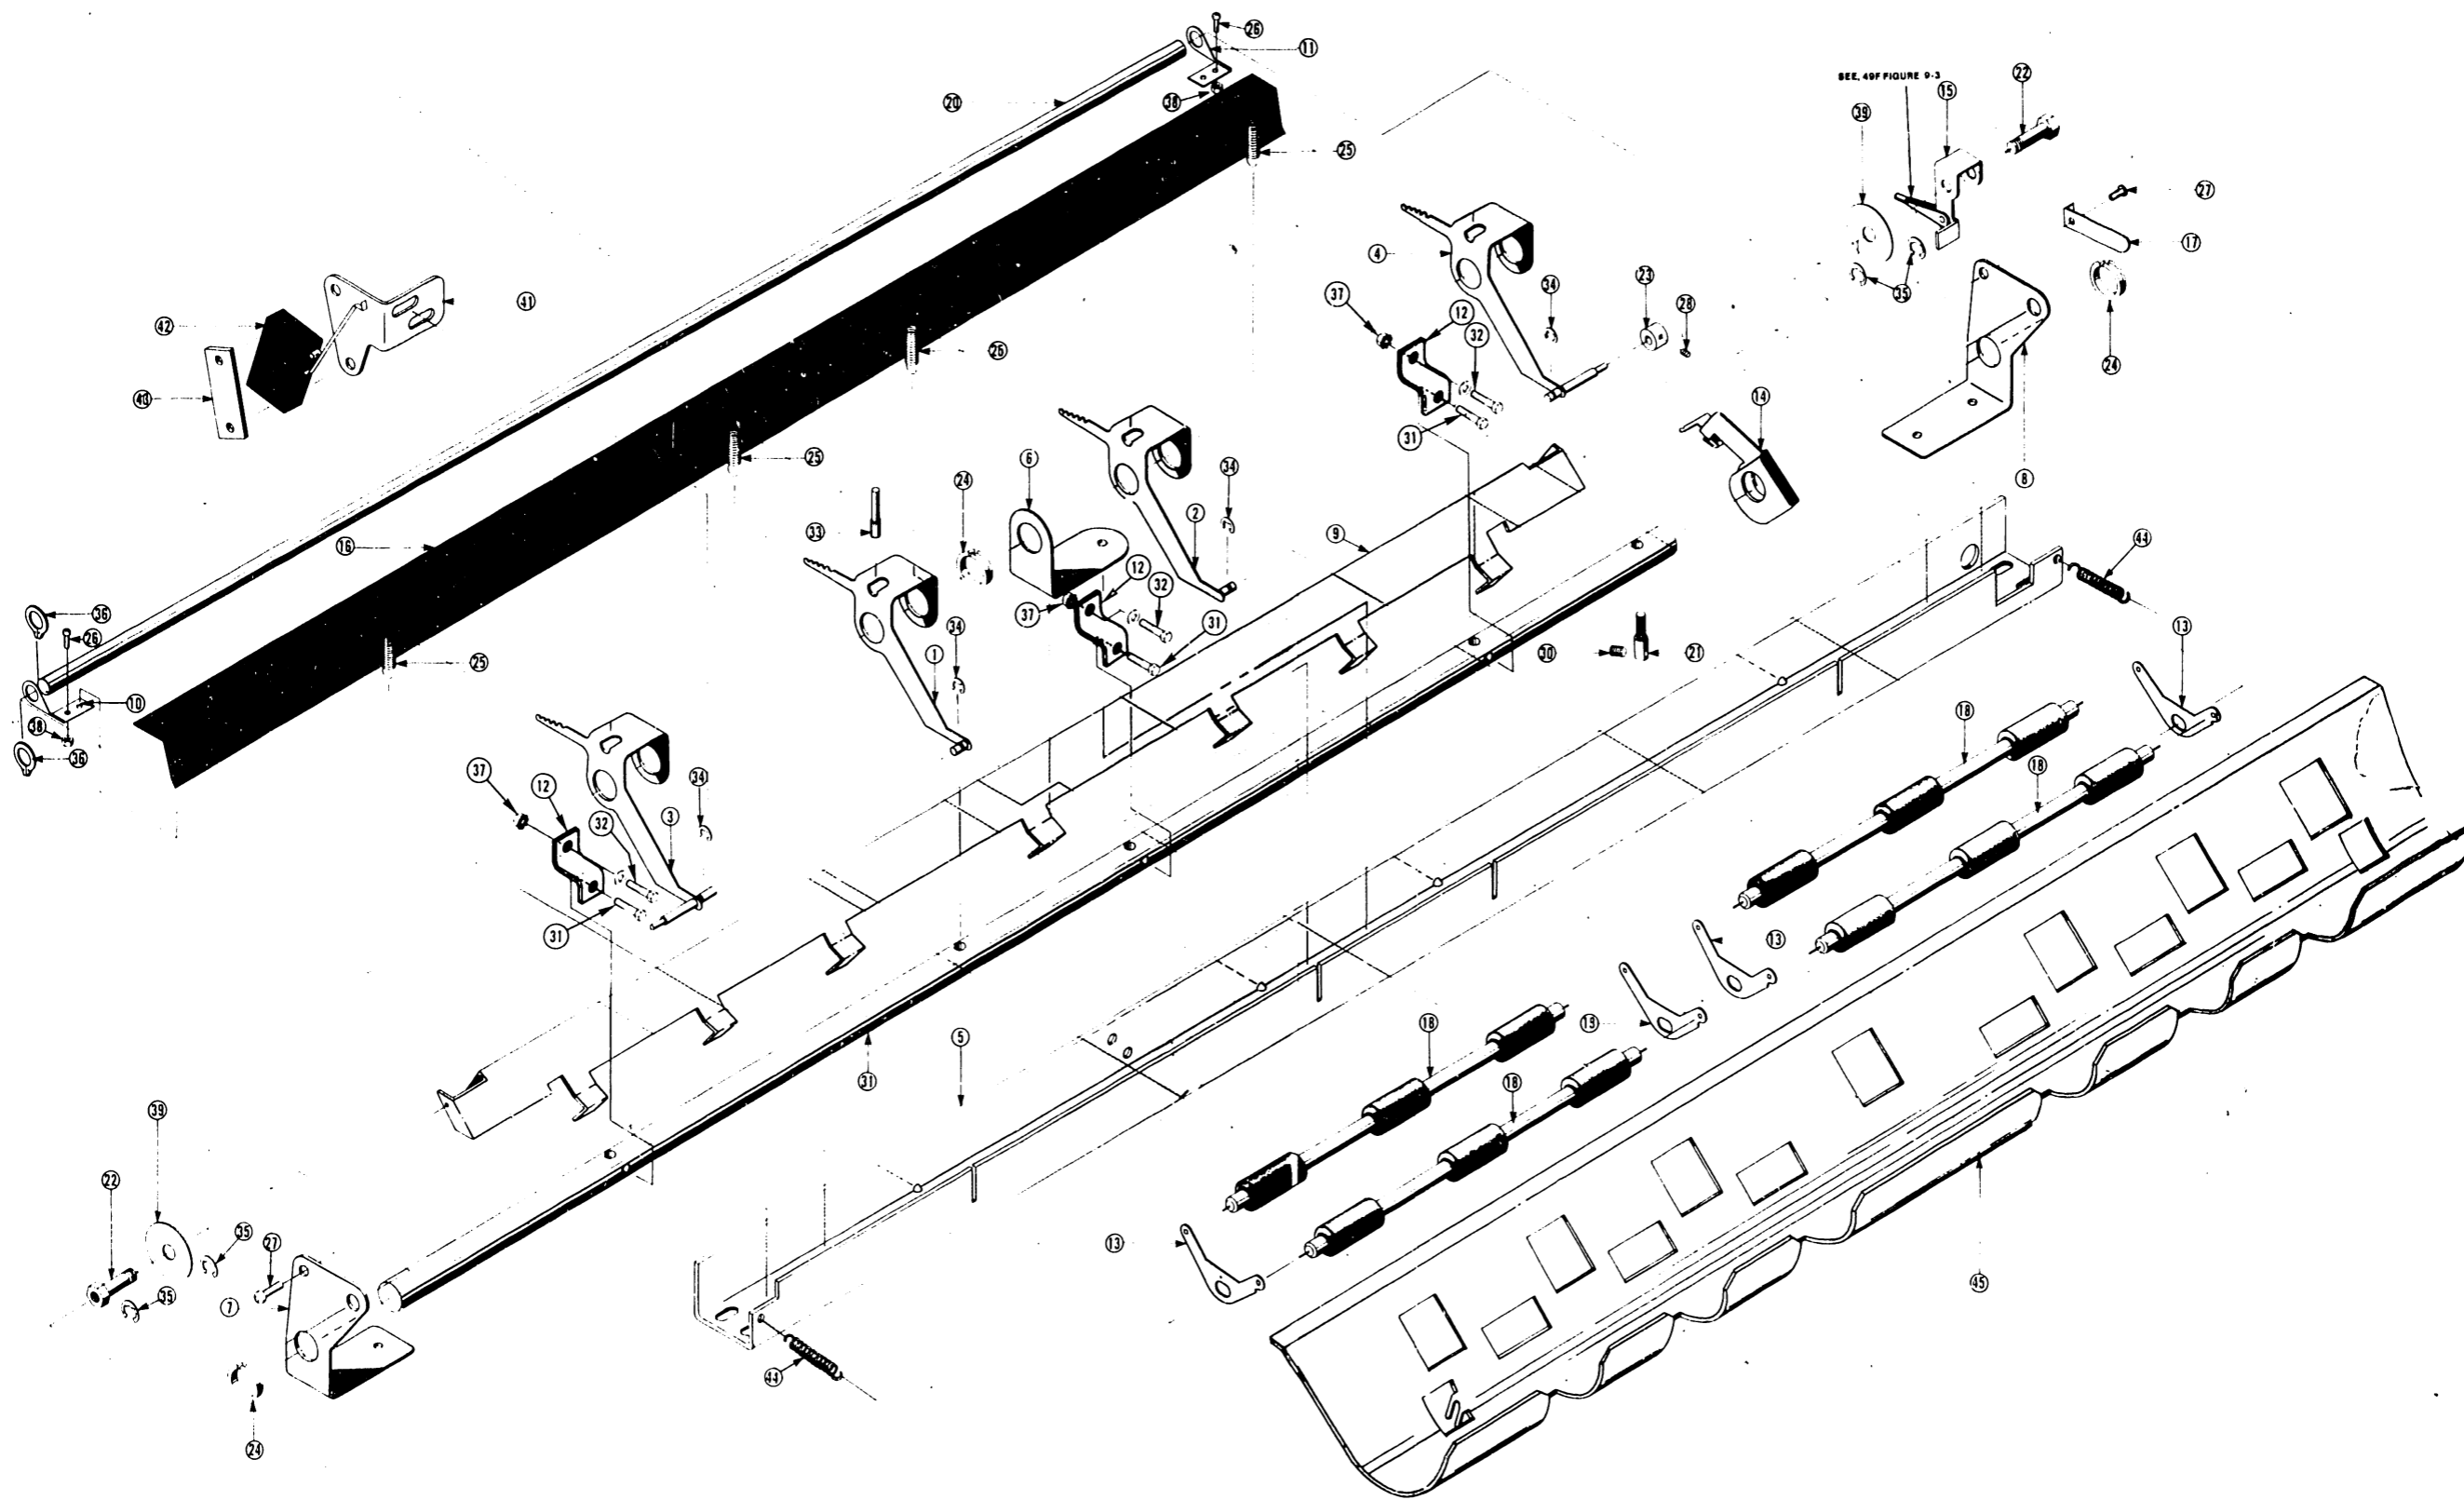

FIGURE 9-4 U CHANNEL ASSEMBLY
- 9.3.3 'U' CHANNEL ASSEMBLY 279-5117 (81W/41W) (SEE FIGURE 9-4)